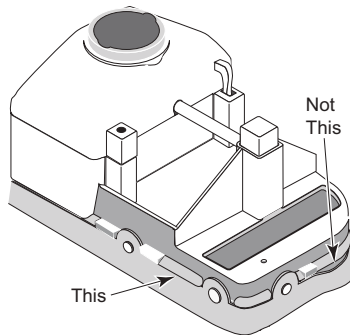

Figure 32
6. Install the rubber vacuum skirt on the cleaner with the word 'OUTSIDE' showing. Start at the large pin on the back of the cleaner head (**see Figure 31**) and work around the cleaner. Make sure the skirt is flush against the stop strips on the cleaner head (**see Figure 32**).